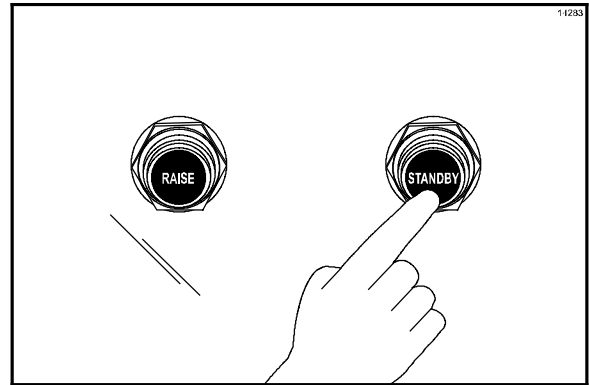

Figure 115
10. Press the Standby button to close the platen. (See Figure 115.)